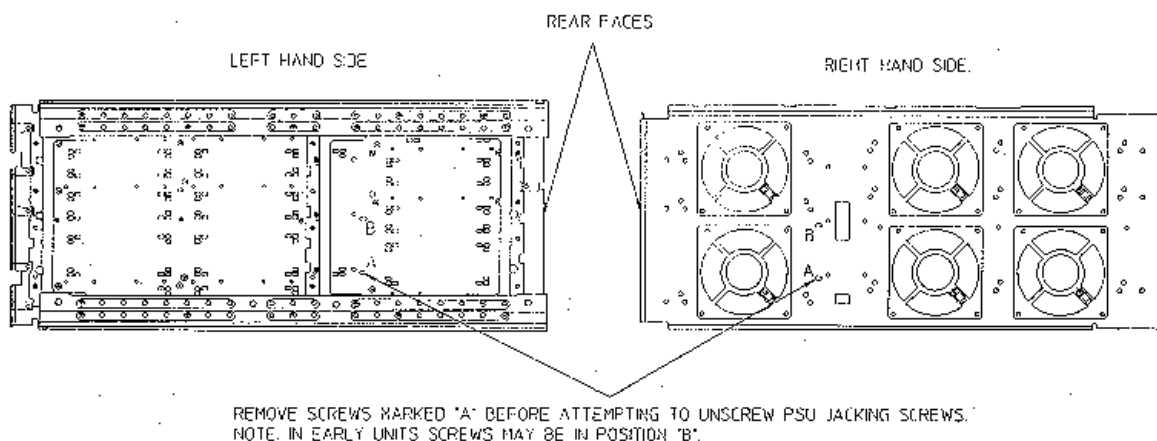

Figure 3
2. Remove screws A (or B in some units) as shown in FIG 3. This will allow removal of the PSU unit.